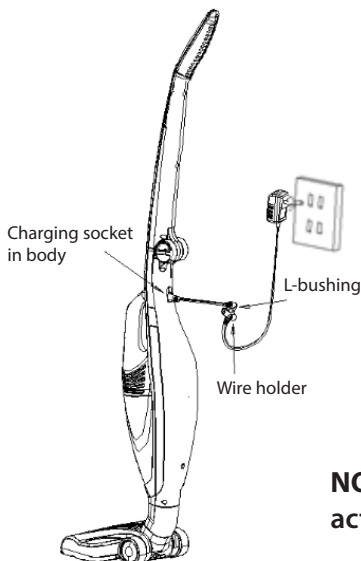

Fig. 12
- Connect the DC plug to the DC jack at the back side of the cleaner main body. And then connect the AC plug to the local power supply outlet. The charging circuit will begin to charge the cleaner (see Fig. 12).